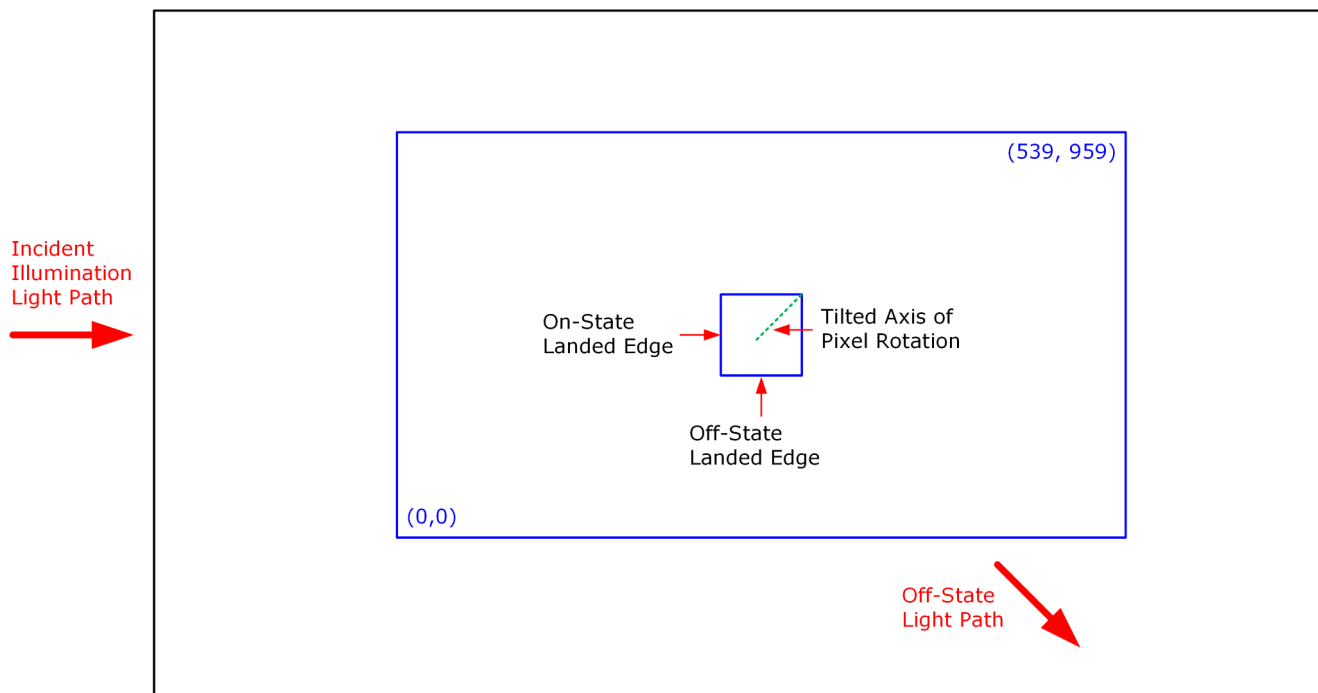

Figure 6-17. Landed Pixel Orientation and Tilt
- (1) Measured relative to the plane formed by the overall micromirror array.
- (2) Additional variation exists between the micromirror array and the package datums.
- (3) Represents the landed tilt angle variation relative to the nominal landed tilt angle.
- (4) Represents the variation that can occur between any two individual micromirrors, located on the same device or located on different devices.
- (5) For some applications, it is critical to account for the micromirror tilt angle variation in the overall system optical design. With some system optical designs, the micromirror tilt angle variation within a device may result in perceivable non-uniformities in the light field reflected from the micromirror array. With some system optical designs, the micromirror tilt angle variation between devices may result in colorimetry variations, system efficiency variations, or system contrast variations.
- (6) When the micromirror array is landed (not parked), the tilt direction of each individual micromirror is dictated by the binary contents of the CMOS memory cell associated with each individual micromirror. A binary value of 1 results in a micromirror landing in the ON state direction. A binary value of 0 results in a micromirror landing in the OFF state direction. See Figure 6-17.
- (7) Micromirror tilt direction is measured as in a typical polar coordinate system: Measuring counter-clockwise from a 0° reference which is aligned with the +X Cartesian axis.
- (8) The time required for a micromirror to nominally transition from one landed state to the opposite landed state.
- (9) The minimum time between successive transitions of a micromirror.
- (10) Conditions of Acceptance: All DMD image quality returns will be evaluated using the following projected image test conditions: